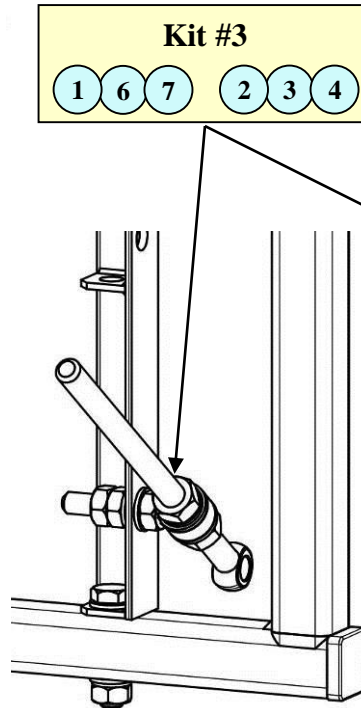

Fig 3.2
3.2. Assemble Elevation Adjusting Screw Kit #3 and connect to the Mount as shown in Fig 3.2. See Pic. 3 (page 5) for the correct Kit #3 parts installation. Leave screws slightly loose.